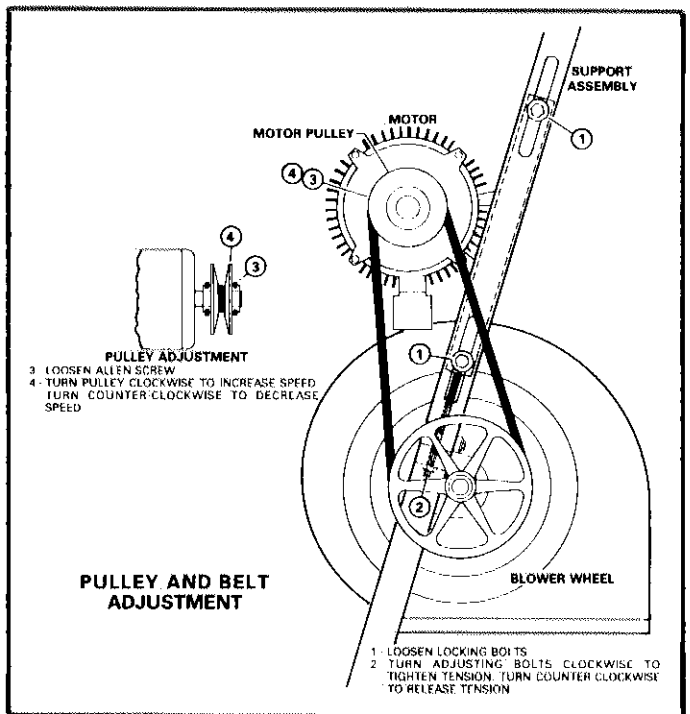

FIGURE 14
- The CFM can be adjusted at the motor pulley on CHP11-1353 units. Loosen the allen screw. Turn adjustable sheave clockwise to increase CFM or counter-clockwise to decrease CFM. See Figure 14.
proper pulley alignment and belt tension are maintained. Initially, tension new belt(s) after a run in period of 24-48 hours. This allows belt to stretch and seat in the grooves. To adjust belt tension, loosen 4 locking bolts. Turn adjusting bolt to slide motor up or down. See Figure 14.